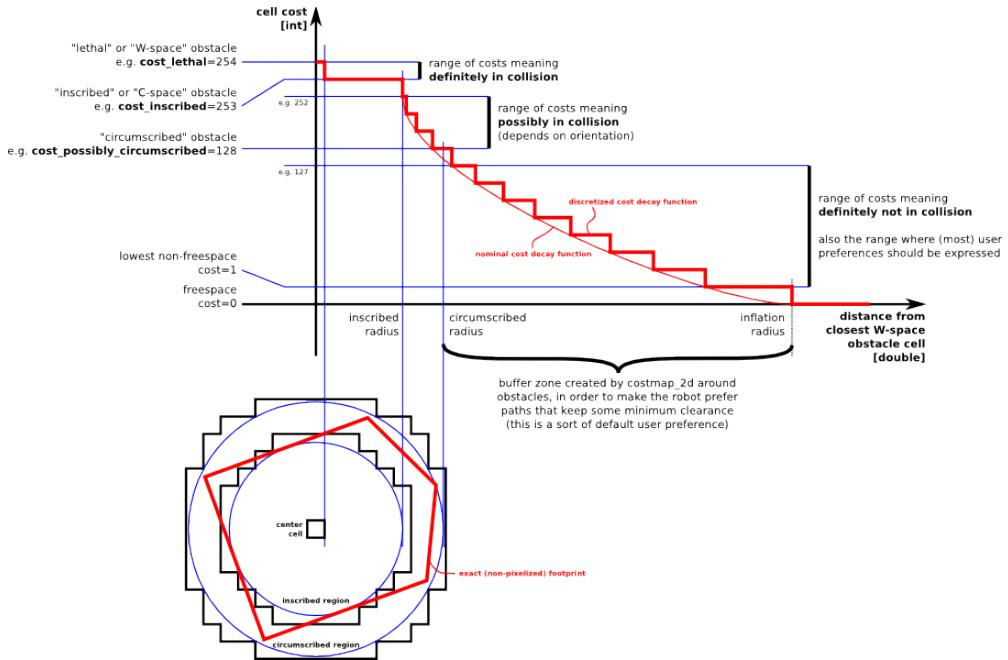

Figure B.1.: CostMap Valuation Diagram (Source: http://wiki.ros.org/costmap_2d)
- Explain the following diagram (see Figure B.1).